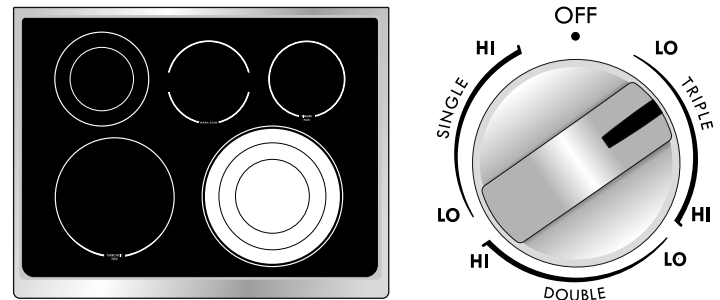
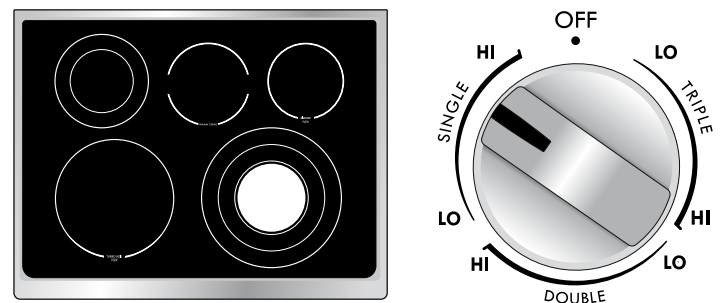

Figure 1 - Heating with all portions
Figure 3 - Heating with inner portion only
2. Push in and turn the surface control knob clockwise to begin heating all, the inner, middle and outer portions of the element (Marked triple - see figure 1). If the two inner heating portions are needed turn the knob at position marked double (Marked double - see figure 2). If only inner heating portion is needed for smaller cookware, push in and turn the knob counterclockwise (Marked single - see figure 3).